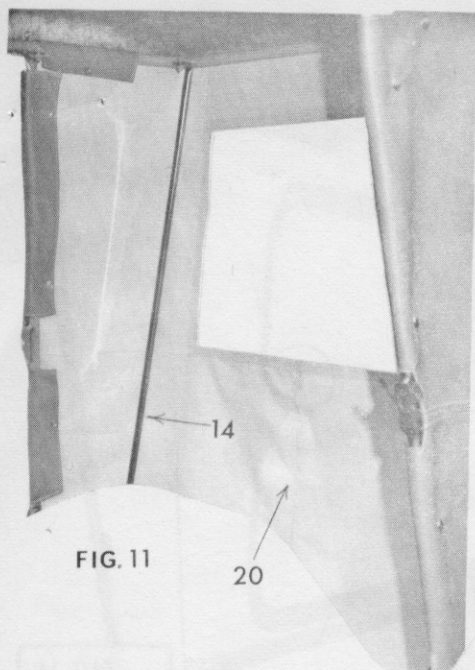

FIG. 11
STEP 6: SEE FIGS. 11 & 12:
B. Snap side of REAR CURTAIN (20, FIG. 11) to REAR POSTS (9 & 10). Flaps with snaps attach to side portion of TOP FRAME (6). The top part of REAR CURTAIN with sewn in rod, should lay on part #6 (TOP FRAME). Loosely place FIBERGLASS TOP (16) over top frame, with rear curtain rod on top of top frame. (Fiberglass top, after bolted down, will prevent REAR CURTAIN from falling).